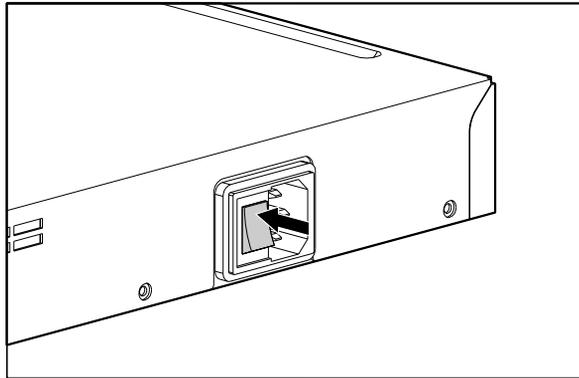

Figure 27: Power set to Off
1. Make sure the power switch is set to Off (see Figure 27).